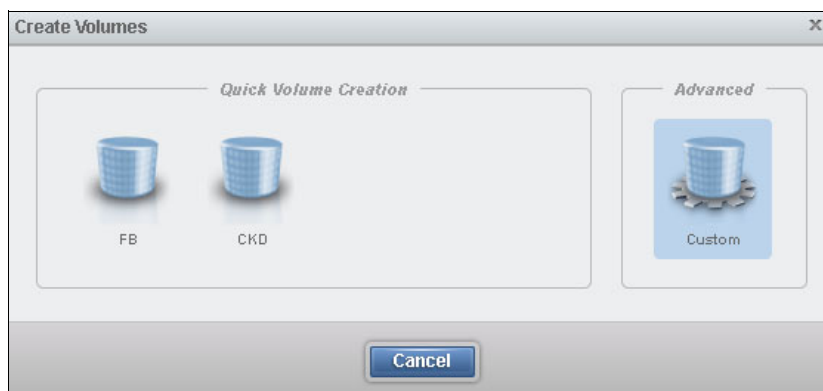

Figure 11-35 Create FB Volumes: Advanced
1. From the **Create Volumes** window, select **Advanced** (Custom), as shown in Figure 11-35.